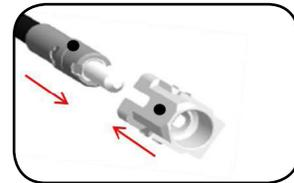

Figure 2
**Step 2:** Align the black mark on the inner housing with the black line on the connector, then rotate the inner housing 45 degrees to offset the lock (**Figure 2**) and slide the inner housing half way over the connector.